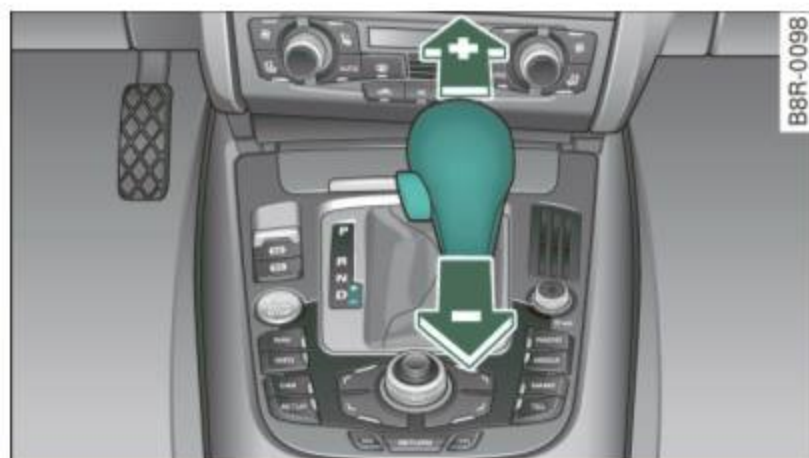

Fig. 156 Center console: shifting the tiptronic manually
- Push the selector lever forward to the plus position **+** ⇒ fig. 156.